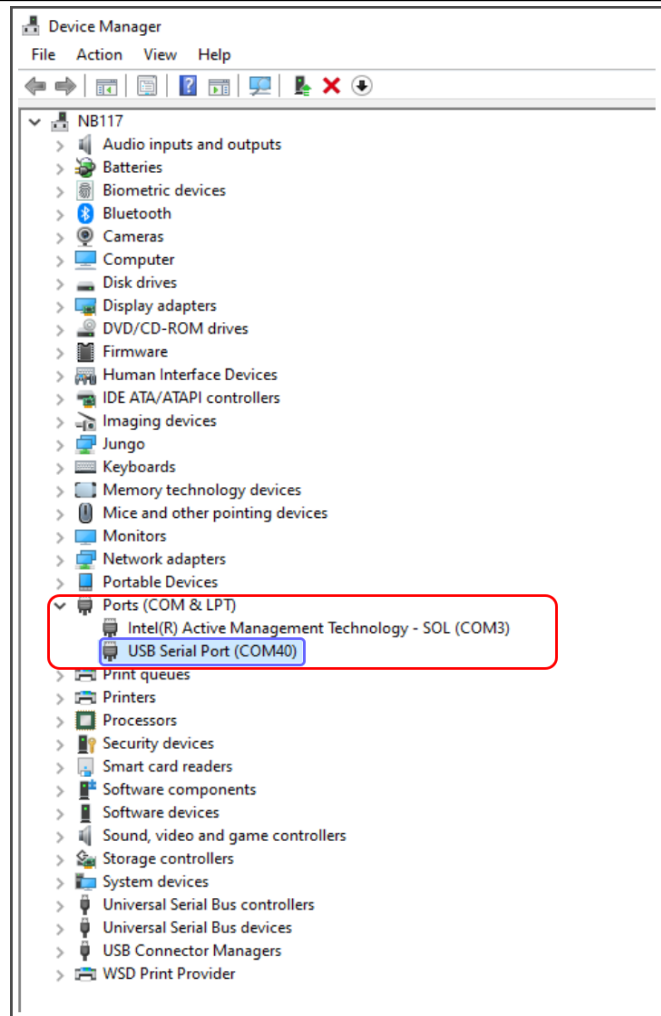
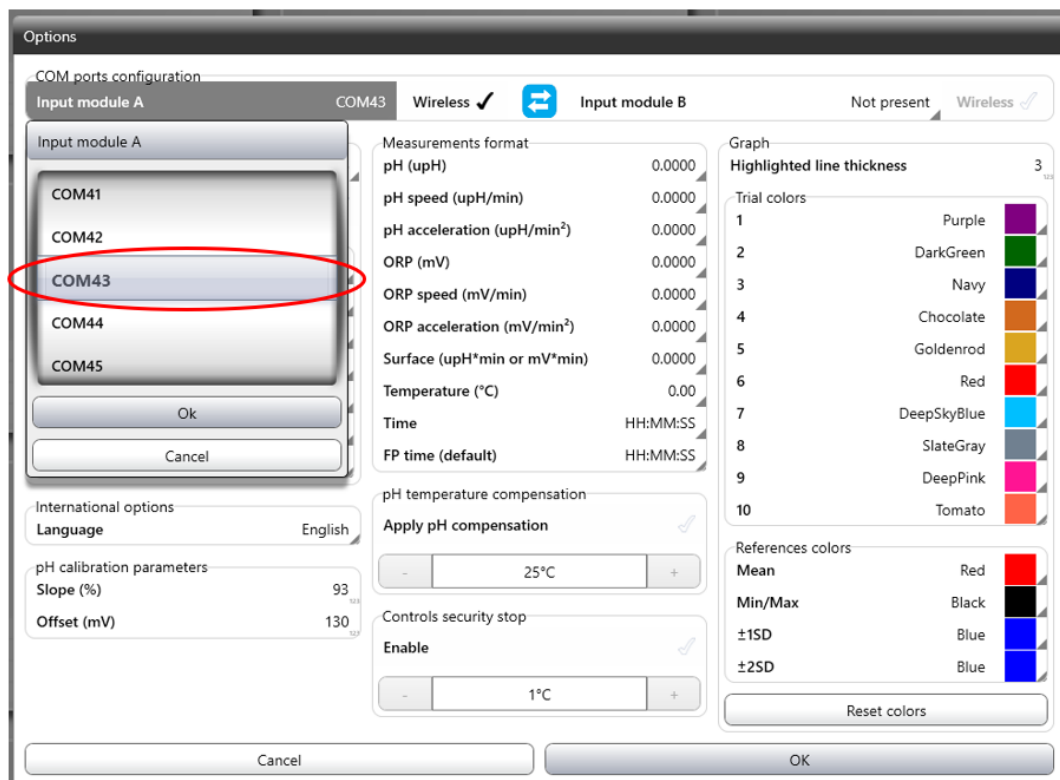

Figure 6: Device Manager COM Port.
Figure 9: COM port configuration view.
- 4) After installation, check the COM Port Used: Go in Control Panel > System / Device Manager / Ports (COM&LPT) as shown in Figure 6, encircled in red. USB Serial Port (COM***), is shown on the same figure- highlighted in blue.
Options; Input module A: Left click on COMxx, as shown in Figure 88; Select the COM port noted in Chapter 3.1 Figure 6 (in Figure 9 as an example it is selected the COM43).